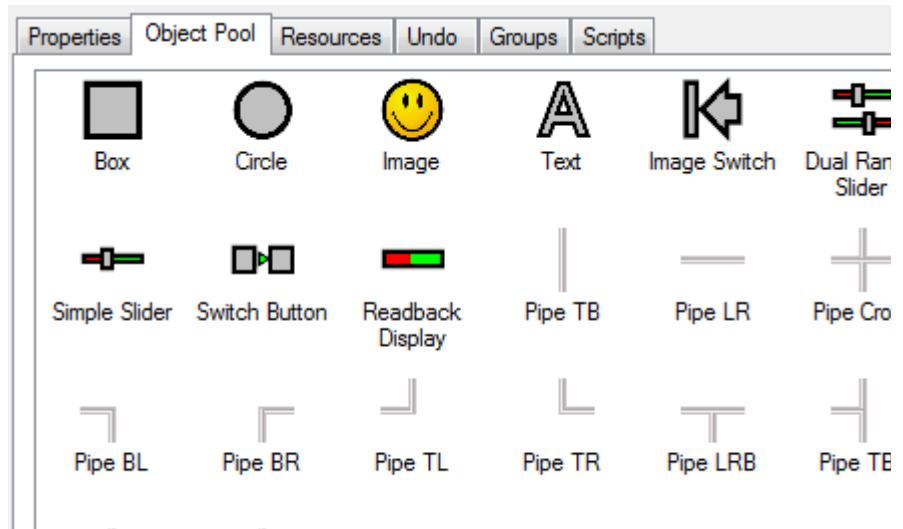

Figure 3-21. Object Pool tab
The list of objects available for the design of the panel user interface is shown in the Object Pool tab, see Figure 3-21. Note that some of the objects require additional graphical “resources” as well as a link to the hardware.
3. From the **Object Pool** tab (see Figure 3-21), drag the object into the Graphical View pane. In this example, drag *Simple Slider* as object to